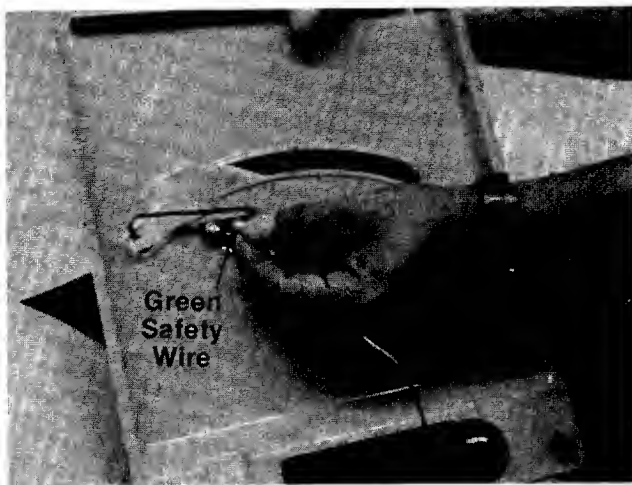

FIGURE 7.
3. Lift the transmission cover. Unplug the green safety wire from beneath the transmission cover. See figure 7. Remove transmission cover.
10. Plug the green safety wire into the switch beneath the transmission cover. Refer to figure 7. Replace the transmission cover and gear shift knob.